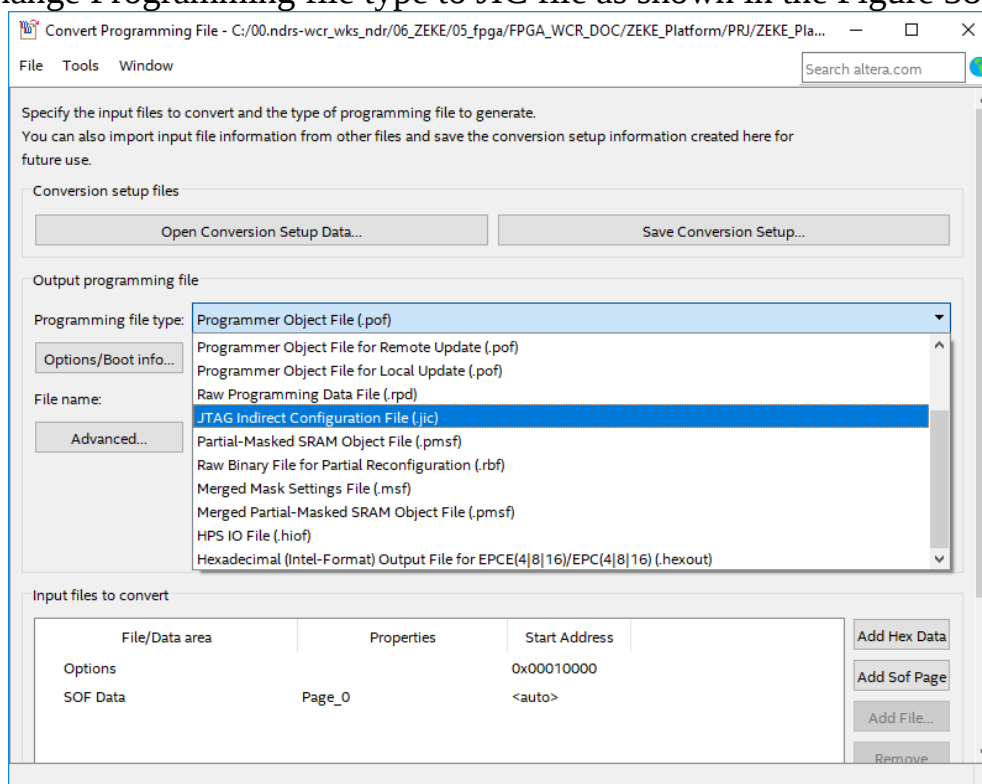

Figure 38 : Programming File Type
2. Change Programming file type to JIC file as shown in the Figure 38.